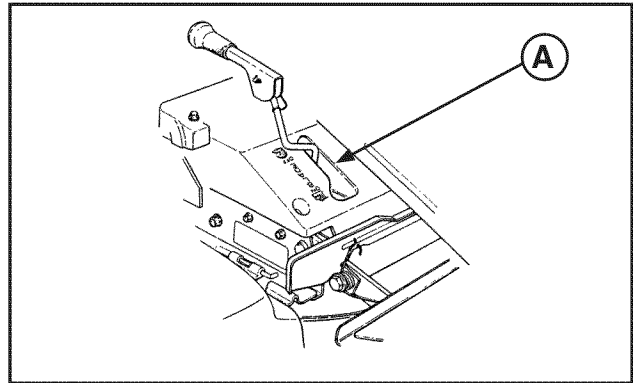

FIGURE 4
2. Move the engine speed control fully forward to CHOKE (**A**, Figure 4).